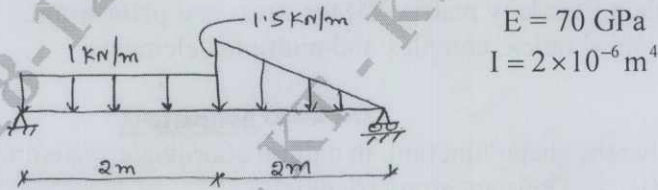

Fig. Q6 (b)
b. Find the deflection and slopes at the nodes for the aluminium beam shown in Fig. Q6 (b). (10 Marks)